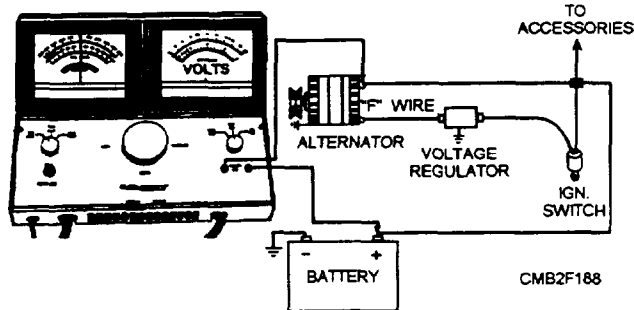

Figure 2-35.—Typical insulated resistance test setup.
**INSULATED RESISTANCE TEST.**—To perform an insulated resistance test, connect the load tester as described by the manufacturer. A typical connection setup is shown in figure 2-35. Note how the voltmeter is connected across the alternator output terminal and positive battery terminal.